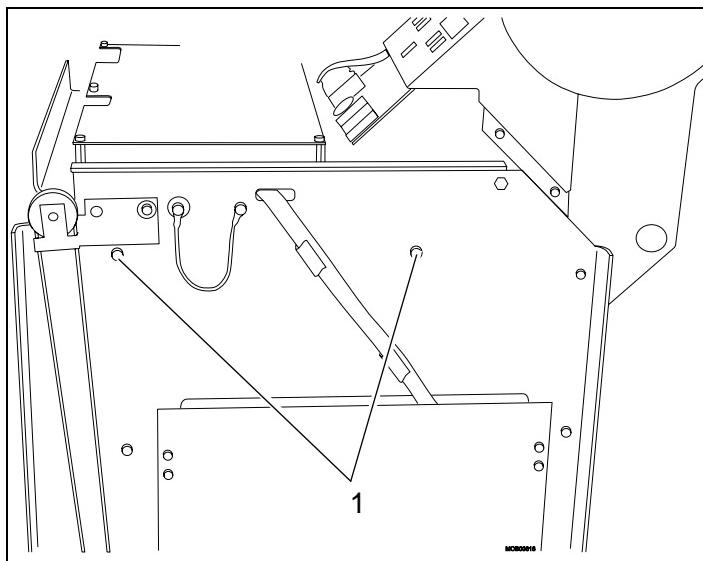

Fig. 2
- Remove the four (two on each side) screws that fixes the cable winder assembly (pos. 1 / Fig. 2).